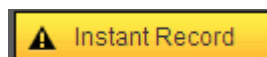

Figure 5-8
- Section 4: Instant record button. Click it, the button becomes yellow and system begins manual record. See Figure 5-8. Click it again, system restores previous record mode..